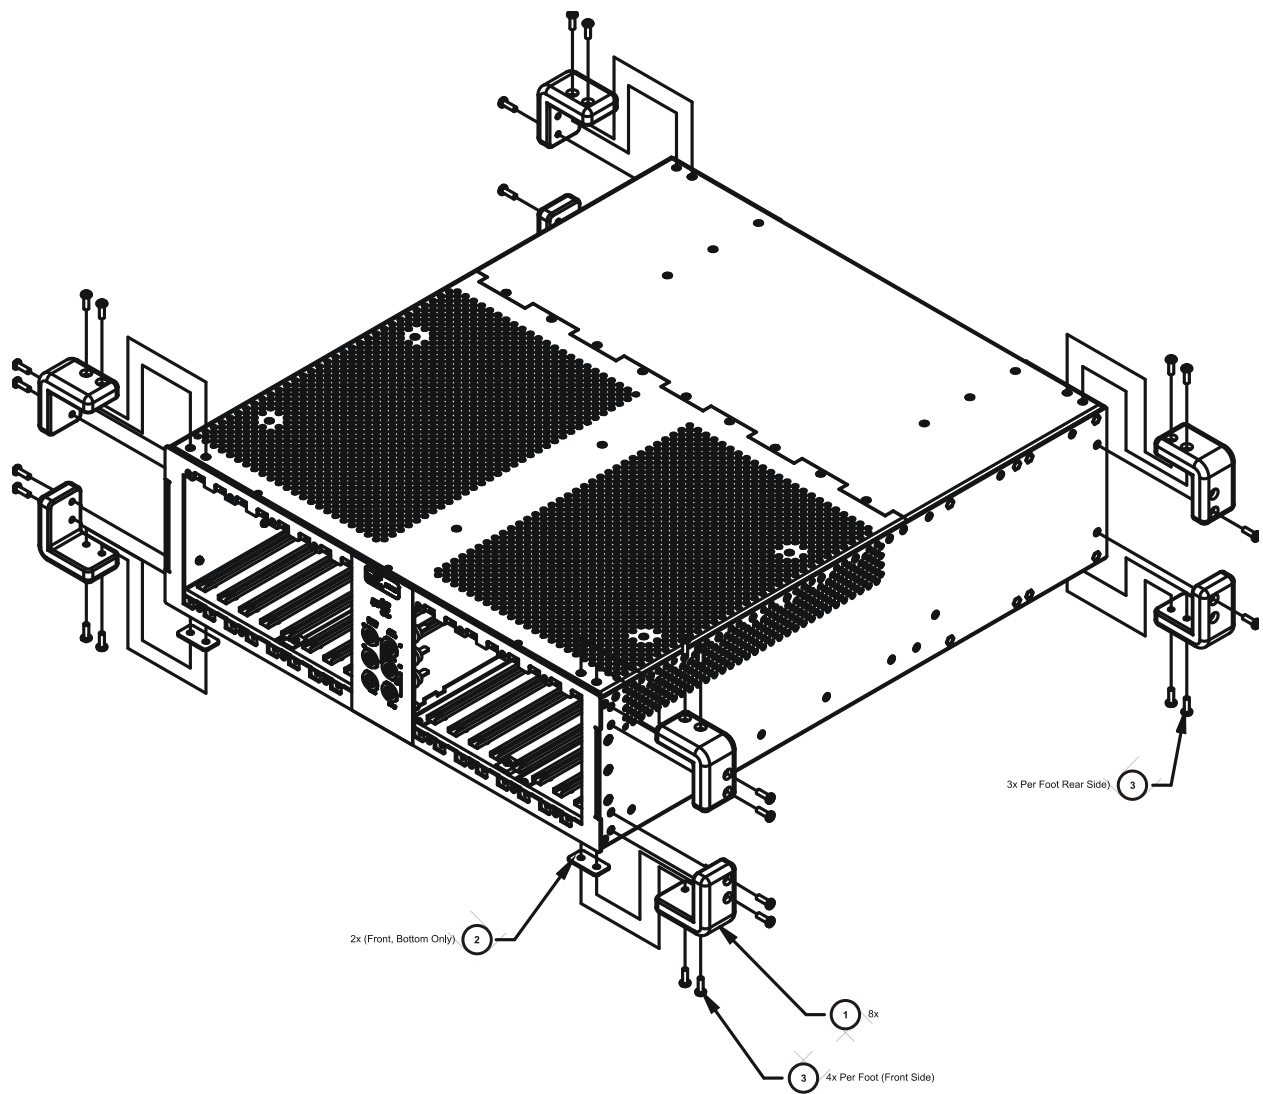

FIGURE 2-11: TABLE TOP FEET INSTALLATION DIAGRAM (EXPLODED FRONT VIEW)
- 2) Using Figure 2-11, locate the installation locations for each rubber foot. Note the location of the two shims (P/N: 41-0494-022) that are required for the two bottom, front locations.
- 3) Using the #2 Phillips screw driver, install the eight rubber feet using four (4) 6-32 x 7/16" pan head Phillips screws to secure the top and bottom and one (1) 6-32 x 1/2" pan head Phillips screw to secure side of each foot.
- 2) Using a #2 Phillips screwdriver, install the rack ears (P/N: 41-0494-010) on the front of the EX1200 using four (4) 6-32 x 3/8" flat head Phillips stainless steel screws (P/N: 37-0173-037) for each rack ear. Note that the "Optional Mounting Locations" in Figure 2-11 allow the EX1200 to be installed in a rack either flush or recessed.
- 3) Next, attach the unit support brackets (P/N: 41-0494-020) to the EX1200 using two (2) 6-32 x 3/8" pan head Phillips SEMS screws (P/N: 37-0028-037) for each bracket (see Figure 2-11).
- 4) Place the rear rack support brackets (P/N: 41-0494-021) on the inside of the unit support brackets installed in Step 3 and loosely secure them using two (2) 8-32 x 3/8" pan head Phillips SEMS screws (P/N: 37-0073-037) and two (2) KEPS hex nuts (P/N: 37-0200-832). Loosely installing the hardware will allow the rear support bracket to adjust to the proper length once installed in a rack.